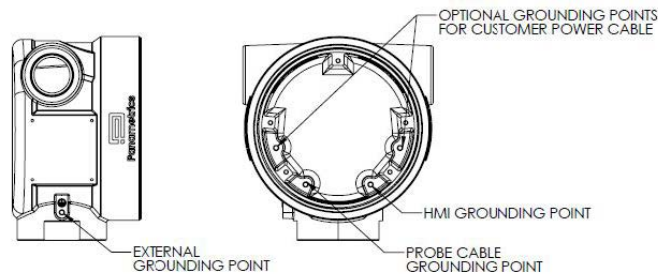

Figure 12: HygroPro XP Grounding Diagram
Step 5: Feed power supply (wired per section 1.4 "Wiring the Transmitter") through cable entry on enclosure. Make connection with back of the main board. If required, fasten earthing wire of power cable to grounding point specified in Figure 12 "HygroPro XP Grounding Diagram".
Figure 12 shows the grounding points on the enclosure, both internal and external, which should be followed in all wiring setups.
WARNING! Proper grounding of the HygroPro XP enclosure via the external grounding screw on the enclosure (see *Figure 12*) is required to prevent the possibility of electric shock. All ground screws should be hand tightened only, to 10in-lbs.